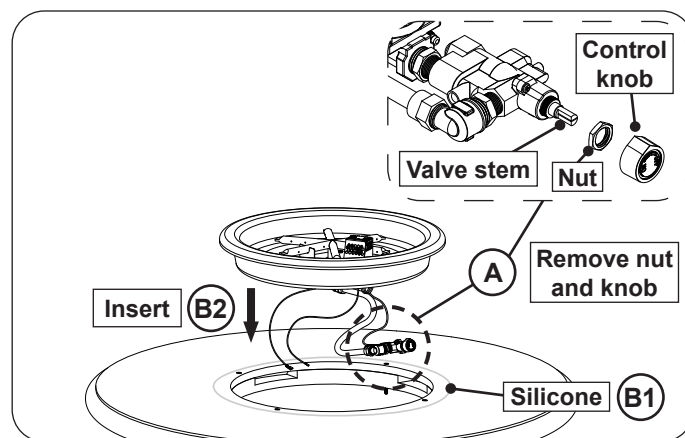

Fig. 31-2 Place burner
5. Locate the valve and burner assembly. Remove the control knob. Use a 20mm socket to remove the nut attached to the valve stem. See Fig. 31-2, A.
Next apply silicone along the top, and then drop the valve and burner assembly into the opening in the center of the firetable top. See Fig. 31-2, B1 and B2.